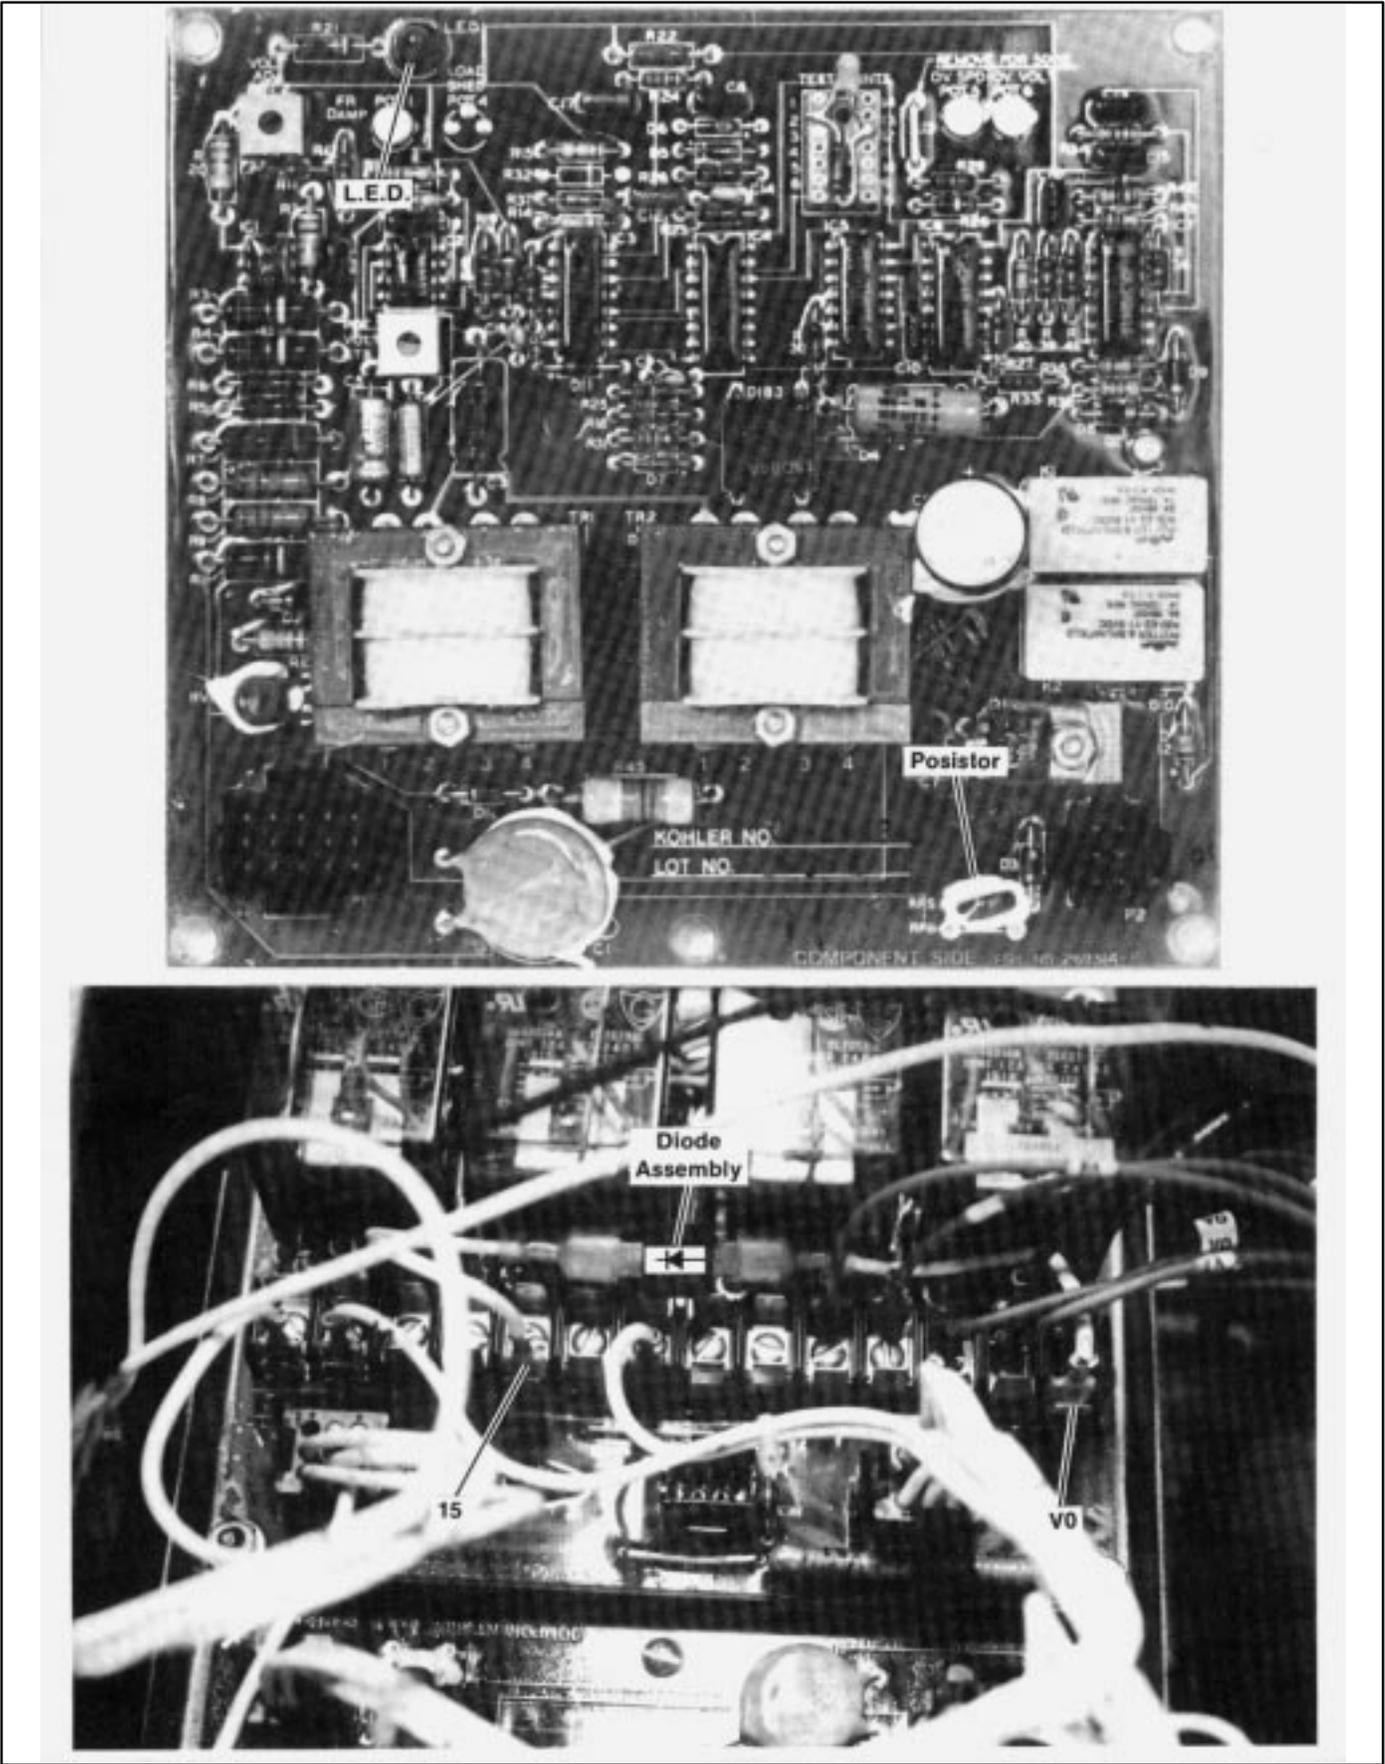

Figure 1. Installing Voltage Regulator Kit
7. Install diode assembly to controller terminal strip. See Figure 1. Connect cathode lead to terminal 15 and anode lead to terminal V0.
If the LED on the voltage regulator board does not light and the posistor generates heat (see Figure 1), low voltage to the board is indicated. Causes may be open leads V7 or V8 or blown 3-amp. sensing lead fuses (if equipped). It is not an indication that the new voltage regulator board is defective.